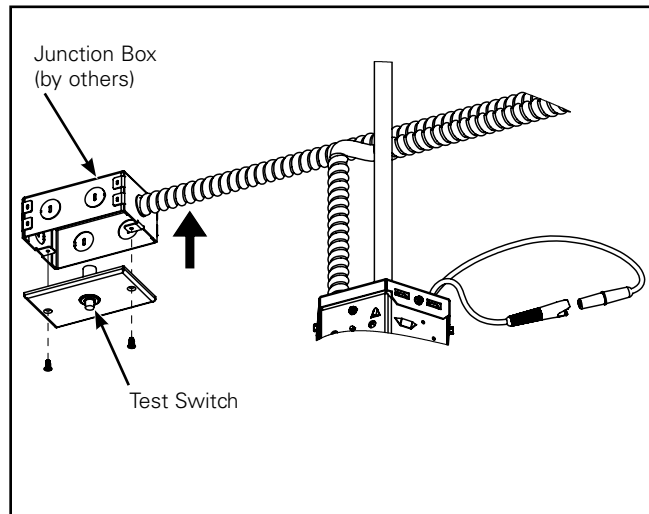

Figure 7.
4. Connect wires from test switch to wires from Battery pack and fasten test switch mounted plate to Junction box (not supplied). Wire according to code. (Figure 7).